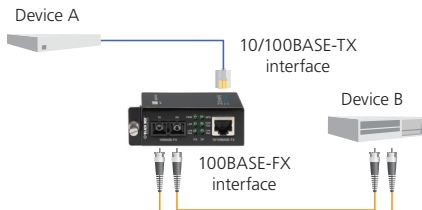

Figure 3-2. Application using one LHC201A or one LHC202A.
2. Place one converter directly between a 10/100BASE-TX network segment and a 100BASE-FX network segment as shown in Figure 3-2.